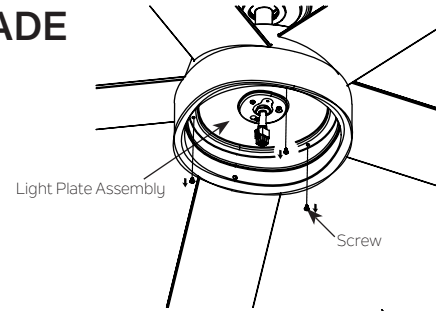

Fig. 21
Step 1. Remove three screws on the light plate assembly and keep for later use. (Fig. 21)